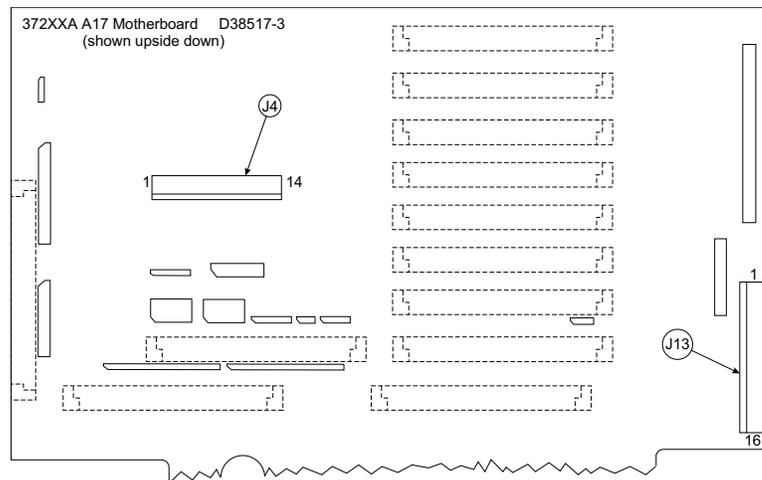

Figure 5-1. Location of Connectors for Power Supply Voltage Checks
- Step 4.** Using a DMM or an oscilloscope, measure the DC power supply voltages listed in Table 5-1. Connect the DMM/oscilloscope to the top of the cable connectors at J13 and J4 on the Motherboard (A17). Refer to Figure 5-1 and Table 5-1.
- Step 4.** Using a DMM and/or an oscilloscope, measure the power supply voltages at the power supply connector pins that correspond to the Motherboard pins for the + 9, ± 18 , and ± 27 Vdc supplies. Refer to Table 5-1 and Figure 5-1 (previous page).
- Step 8.** Using a DMM and/or an oscilloscope, measure the +5 volt power supply at connector J13 on the Motherboard. Refer to Figure 5-1 and Table 5-1.